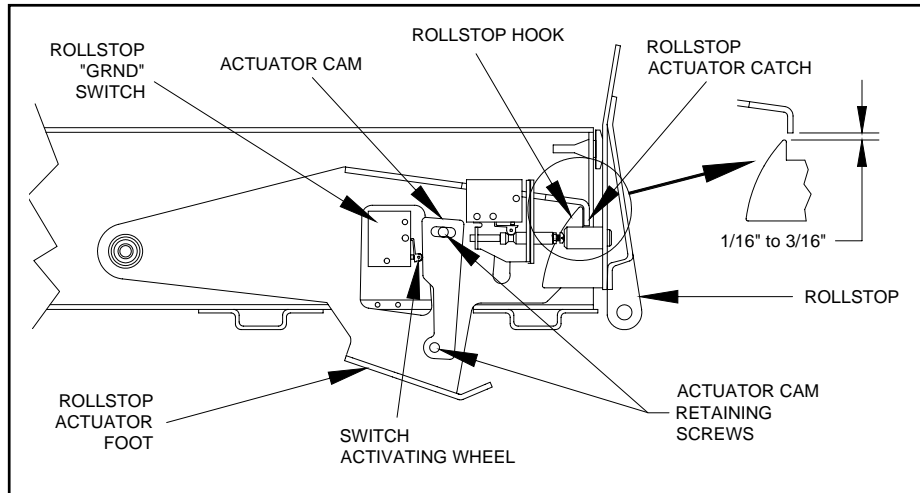

FIGURE 4-4: ROLLSTOP ACTUATION
- 3) Refer to **Figure 4-4**. Loosen motor actuator cam retaining screws and rotate the cam as far away from the switch as possible.